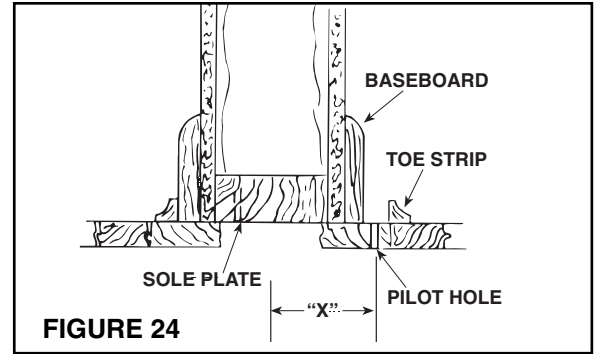

FIGURE 24
1. See Figure 24. A small 'pilot' or 'locating' hole can be drilled behind baseboard toe strip to determine proper location of 2½" diameter tubing hole in sole plate.